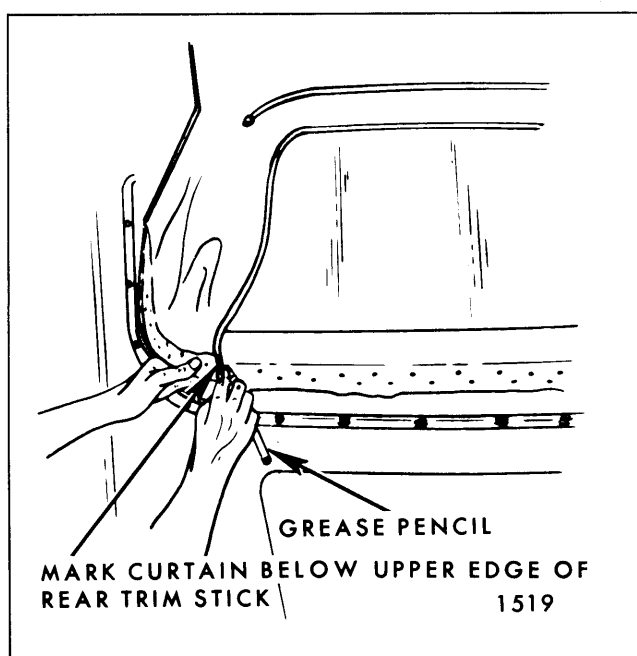

Fig. 13-43—Locating Edge Of Top Material
6. To establish relationship of right and left inner vertical edge of old top material to back curtain assembly at rear trim stick location, mark back curtain material at both locations with a grease pencil (Fig. 13-43). Reference marks should be transferred to new back curtain when step 3 of installation procedure is performed.